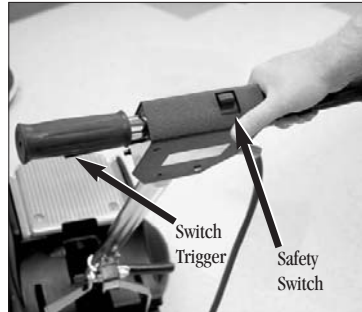

Fig 4
- Plug the machine in as directed and lower the handle to the desired operating height and lock in place using the cam lever handle. Push the safety switch forward (Fig 4) and squeeze the switch triggers beneath the handle grips. This activates the motor and starts the block, brush or attachment in operation. Each time you release the triggers the safety switch will reset. You will need to follow the direction above to restart the machine. **CAUTION:** *When leaving the machine unattended, disconnect the wall plug and return the handle to the "locked" upright position to prevent accidental starting.*